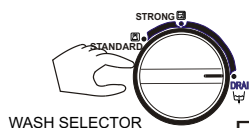

Figure 4
5. After washing, Set the "WASH SELECTOR" at "DRAIN". (Figure 4).